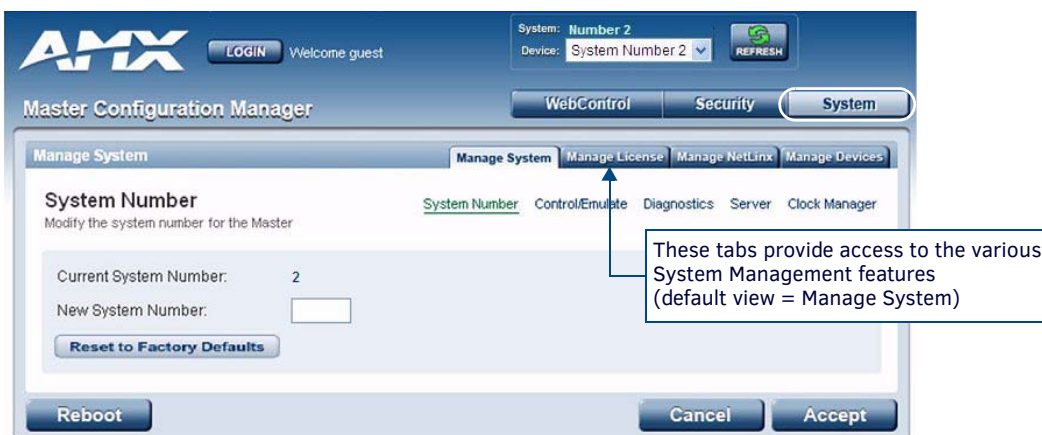

FIG. 49 Manage System (System Number)
4. Click **System** at the top of the page. The default view for the System option is the *Manage System* tab (FIG. 49).